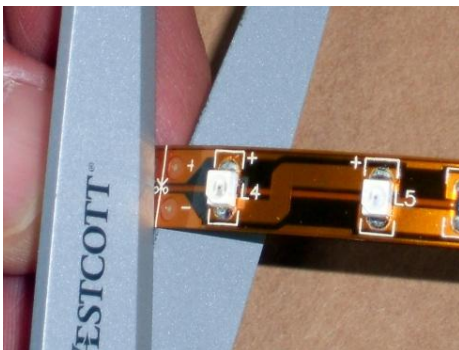

Figure 1
- 2) **Cutting the LED ribbon to desired length:** Using scissors the LED ribbon can be cut on the clearly marked cutting line which is located every 3 LEDs except where the solder drops are located on the ribbon (Fig. 1). The solder is located every 19-1/2 inches on the ribbon. Making a cut on the solder or anywhere else on the ribbon except on the cutting line will damage the ribbon and it will not operate.
- 3) **Connectors:** Included in each package of LED ribbon are (3) LTW-24 Ribbon to Power Supply connectors and (1) LTW-24 affixed to the start of the reel of ribbon. LTC Ribbon to Ribbon Connectors are sold separately.